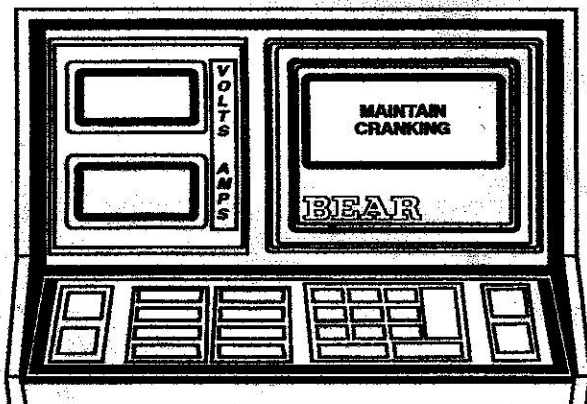

Figure 11
- C. Display reads "MAINTAIN CRANKING" (see Figure 11). Keep cranking the engine for a few seconds, until display reads "TEST COMPLETE."